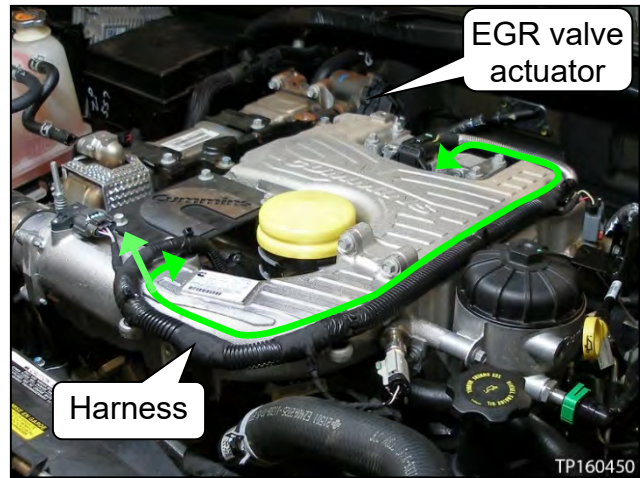

Figure 17
12. Disconnect the EGR valve actuator electrical connector (see Figure 17).
13. Disconnect the engine control harness connectors, and then move the section of engine control harness out of the way (see Figure 17).